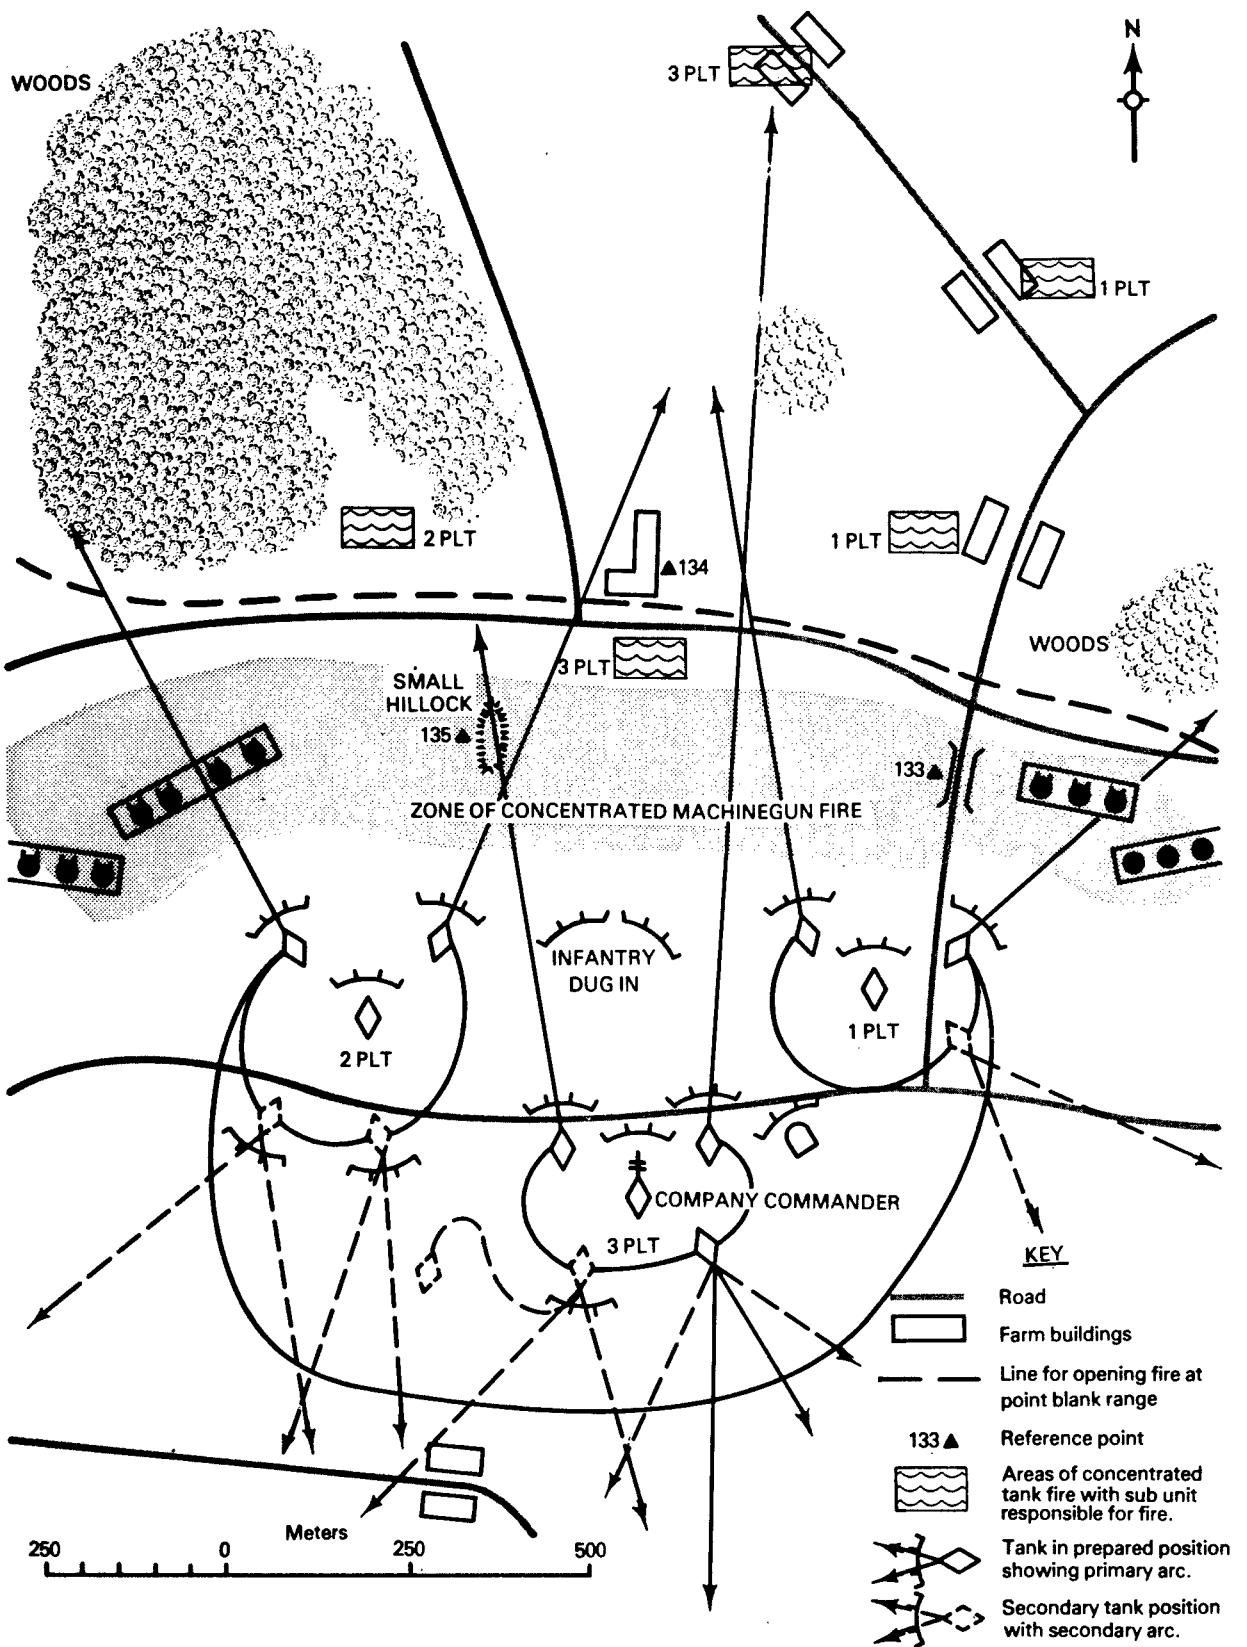

Figure 20. Soviet Tank Company Commanders Sketch of Defensive Position. (Based on Soviet Diagram.).
b. Following final organization of the defensive position on the ground, the company commander sends a diagram of his company's position to the battalion commander. This diagram (Figure 20) includes the following details:
- (1) Prominent terrain features and a scale.
- (2) Enemy positions.
- (3) Tank platoon and attached subunit locations and alternate positions.
- (4) Primary and alternate directions of fire.
- (5) Obstacles.
- (6) Location of company headquarters.
a. When the enemy launches his main attack the company commander concentrates the greatest part of his tank fire on the most threatening portion of the enemy assault. Fire is opened when the enemy reaches the forward edge of the company area of responsibility (approximately 1500 meters). Key points on the company front are designated as areas of concentrated tank fire (see Figure 20). Attached infantry and machineguns engage enemy infantry and APCs with the aim of isolating the infantry from the armor.